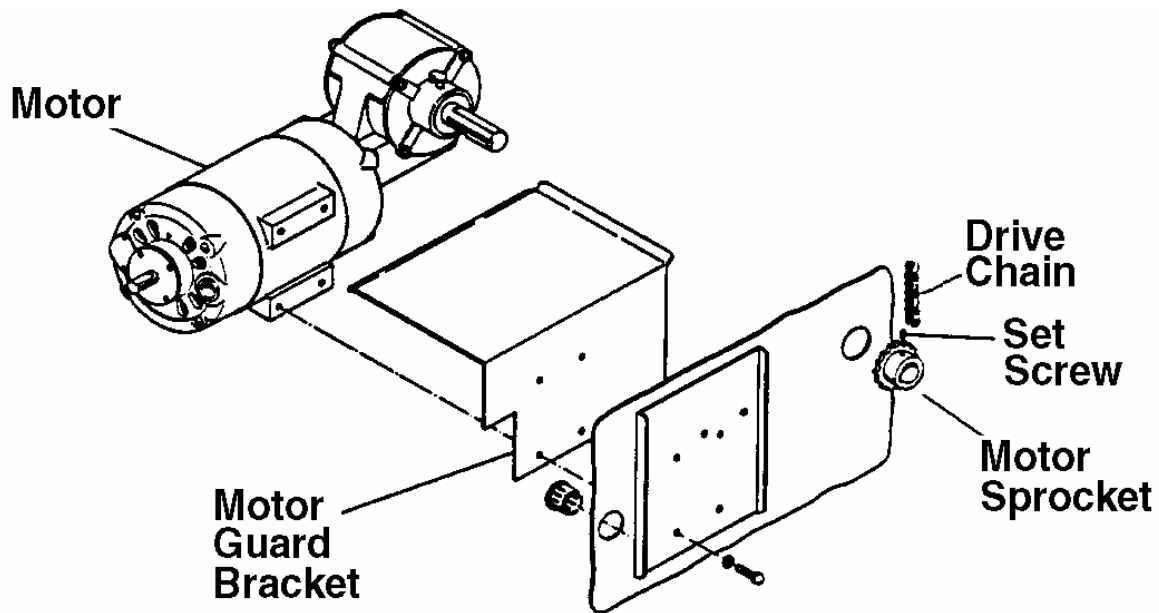

Figure 4-8. Drive motor (exploded view).
- (2) Disconnect the wiring, including the green ground wire. Note from which terminals you removed the wires.
- (3) Unscrew the flow restrictor from the front.
- (4) There are two screws holding the valve, located on both sides of the water inlet. Remove them and bring the solenoid out of the left side of the machine.
- (5) Remove the red plastic cap. Pull the valve down and out of the coil.
- (6) Remove the valve operator by turning the hex fitting counterclockwise.
- (7) Check the action of the spring.
- (8) If you find damage, replace the valve.
g. **Drive Motor Problem.** The drive motor does not have enough torque to turn the drive shaft even though no racks are stuck and power is being supplied at terminal strip TS6. Therefore, you have determined that the drive motor must be replaced. Use the following procedures. Refer to figure 4-8.